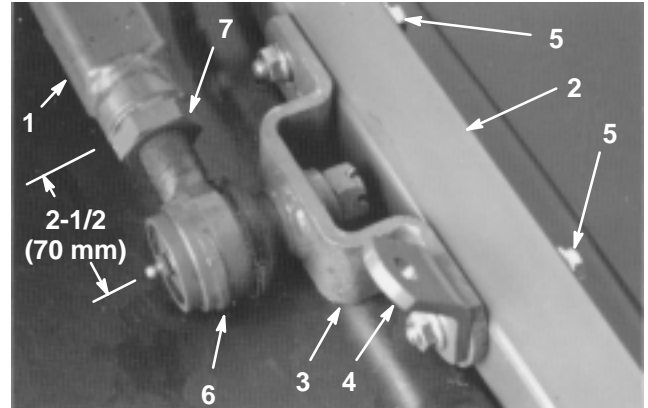

Figure 6
- Remove the 2 capscrews, flat washers, and flange nuts securing the left-hand ball joint mount and chain bracket to the left-hand castor arm (Fig. 6). Remove the ball joint mount and chain bracket.
- Remove the cotter pin and castle nut securing the left-hand ball joint mount to the left-hand push arm on the traction unit. Install the ball joint mount (removed from the castor arm) to the push arm with the castle nut and cotter pin previously removed (Fig. 6).
- Measure the distance from the end of the left-hand push arm to the center of the ball joint (grease fitting) (Fig. 6). The distance should be 2-1/2 in. (64 mm). If the distance is not 2-1/2 in. (64 mm), loosen the jam nut securing the ball joint to the push arm and rotate the ball joint in or out until the distance is attained (Fig. 6). Do not tighten the jam nut at this time.